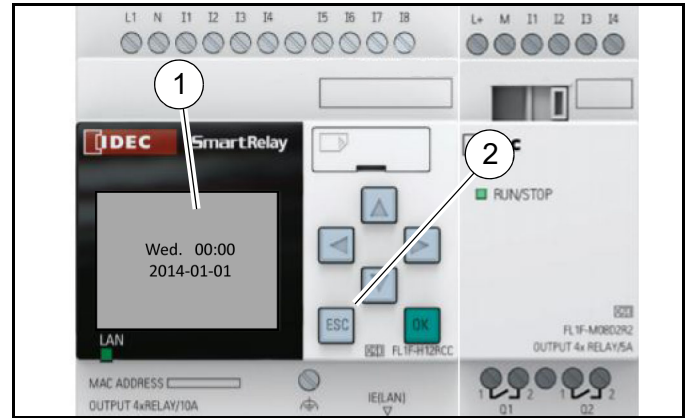

Figure 16
HOME MENU - When the PLC is initially powered, the Home Menu (**Figure 16, 1**) is displayed on the PLC control screen. Notice the flashing date and time screen. To navigate to the Main Menu to change timer and cycle settings, press the ESC button (**Figure 16, 2**) once. This will take you to the Main Menu.
3. Select the MANUAL mode on the MANUAL/AUTO Switch (**Figure 16, 2**) located on the control panel.